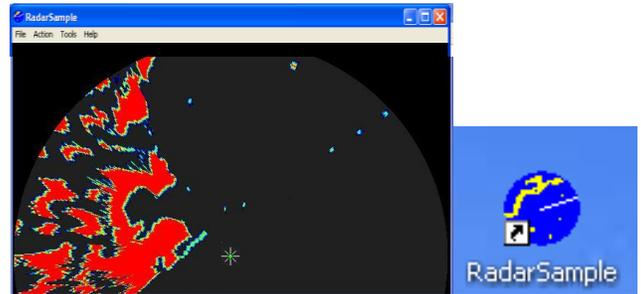

Figure 2. Radar Sample program and Icon.
- ii. Open *Radar Sample* (Remote Computer Desktop) (Figure 2)